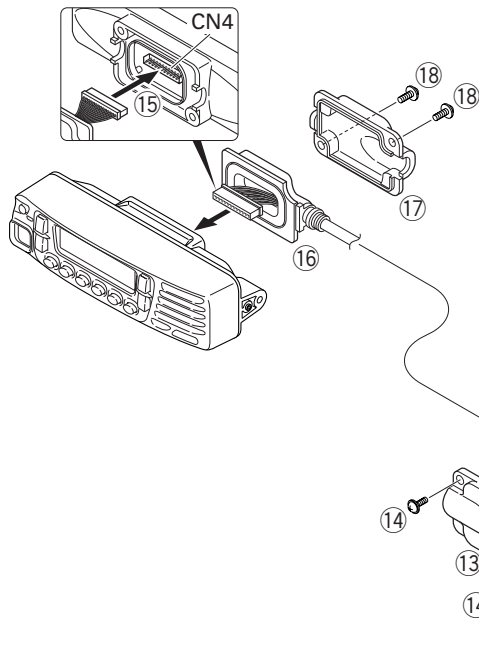

Fig. 3-5
10. Install the molded cover ( ⑬ ) over the connector on the main panel and secure it with two screws ( ⑭ ).
11. Insert the other 14-pin connector of the cable into the connector (CN4) of the interface unit (B/2) of the rear panel. ( ⑮ )
12. Secure the cable bush on the rear panel and fit the waterproof packing (orange) ( ⑯ ) securely over top.
13. Install the molded cover ( ⑰ ) over the connector on the rear panel and secure it with two screws ( ⑱ ).
**Note :** A cable can be connected from the left side as shown in the Figure 3-5 or from right side.